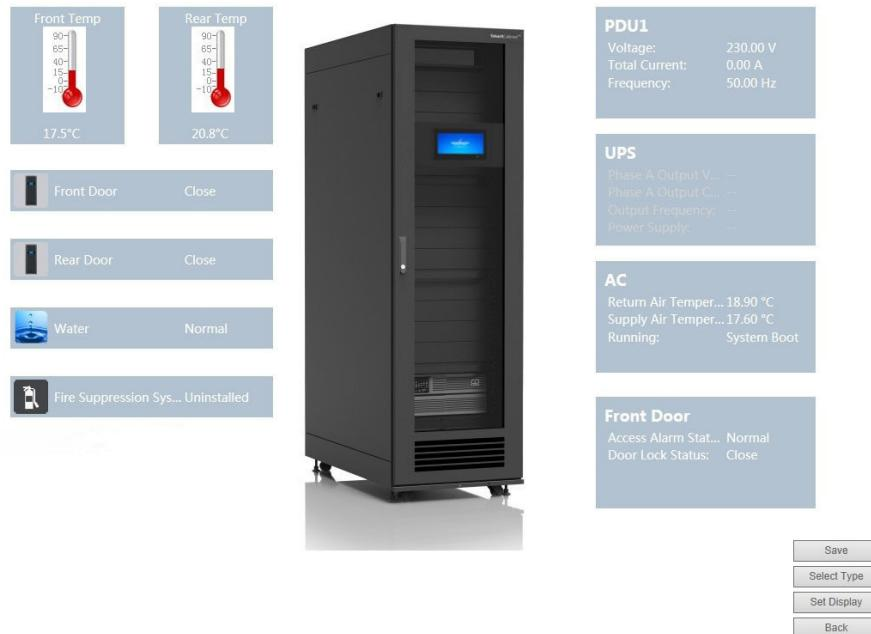

Figure 4-41 Setting status
- Click on the Setting button and different status buttons will be displayed in place of the Setting button as shown in the highlighted red box in Figure 4-41.